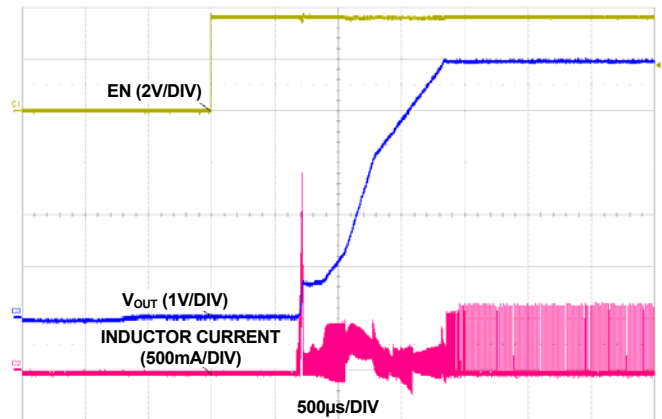

FIGURE 2. ISL91117 START-UP WITH  $V_{IN} = 3.6V$  and  $V_{OUT} = 5V$
Refer to the following Quick Setup Guide to configure and power up the board for proper operation. During the power on process, the expected waveforms are shown in Figures 2 and 3.
7. Monitor the output voltage start-up sequence on the scope. The waveforms will look similar to that shown in Figure 2.